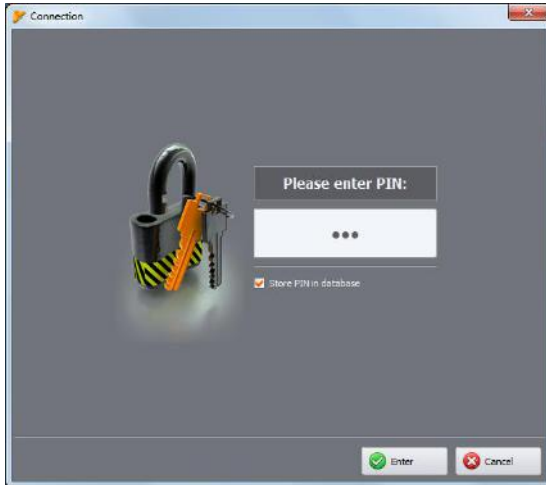

Fig. 7. PIN code verification.
- *The serial number may be entered into the database manually (section 0) or after connecting the analyzer via USB, entering correct PIN code and selecting **STORE PIN IN DATABASE** option (see Fig. 7). Then the analyzer is added to the database of the analyzers (doesn't apply to PQM-707).*
If automatic log-in is unsuccessful, the window shown in Fig. 7 is displayed again.